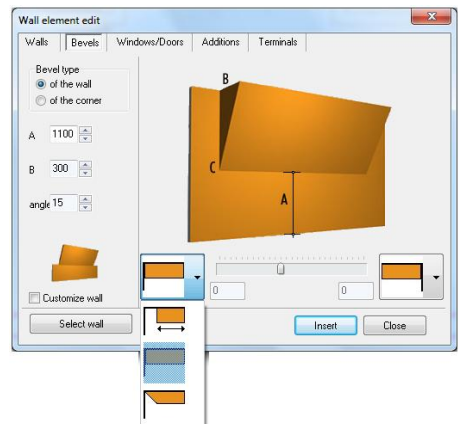

Fig. 91 – inserting the bevel of the wall
- click on the **Walls**  icon and go to **Bevels** tab (Fig. 91).